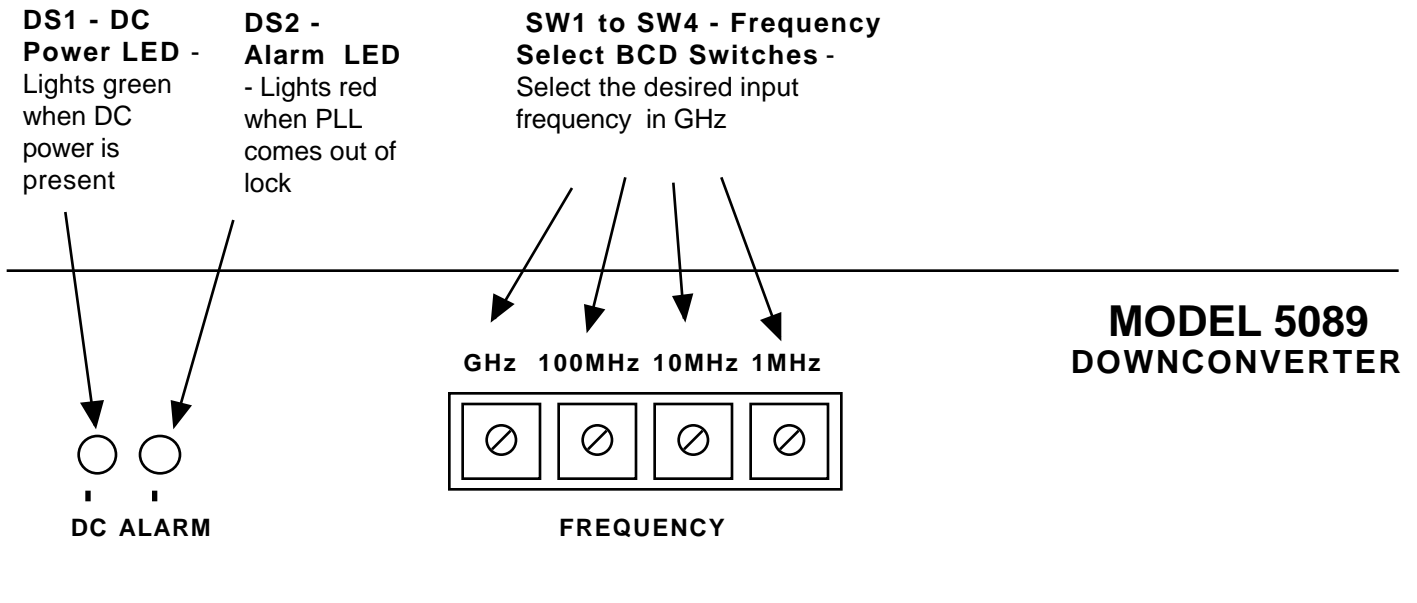

FIGURE 2.2 5089 FRONT PANEL CONTROLS AND INDICATORS
- 5.) Be sure DS1 (green, DC Power) is on and DS2 (red, Alarm) is off (Figure 2.2).